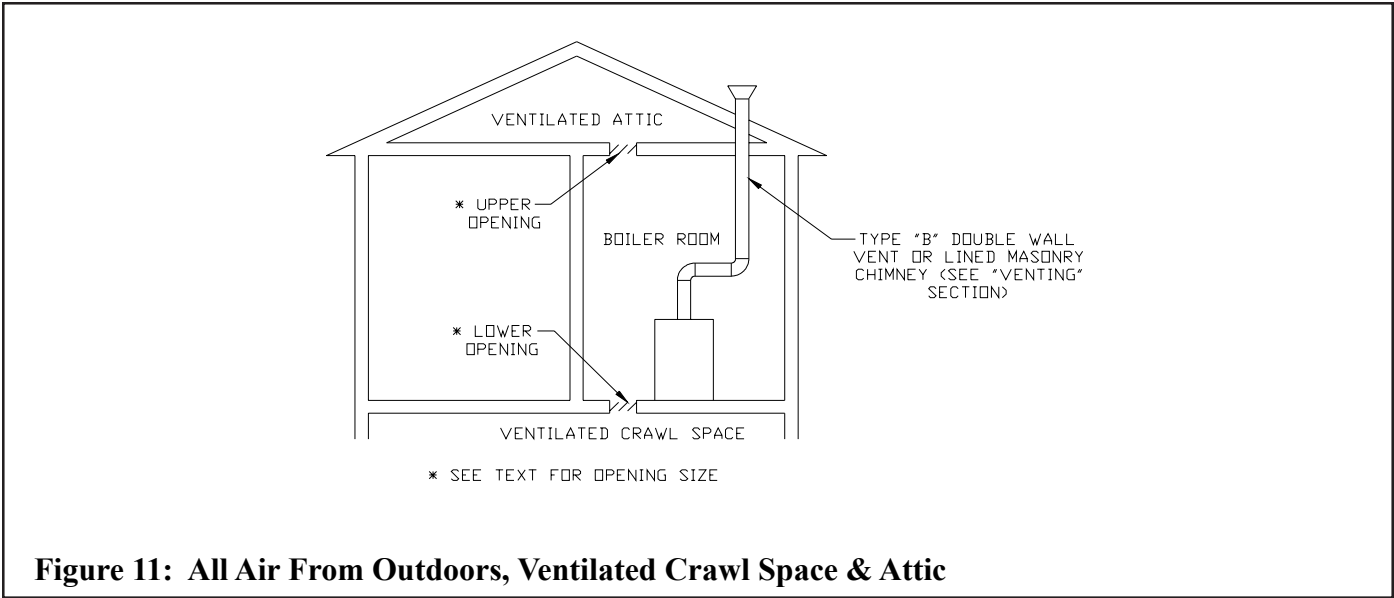
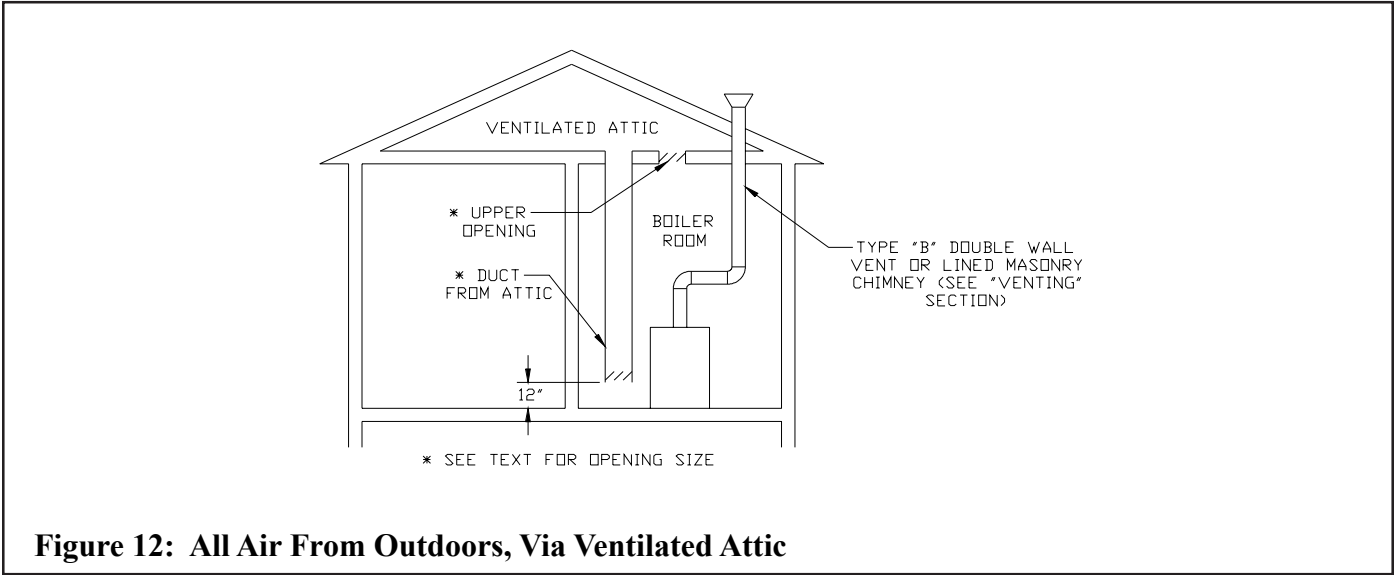

Figure 11: All Air From Outdoors, Ventiladed Crawl Space & Attic
Figure 12: All Air From Outdoors, Via Ventiladed Attic
- b. **Vertical ducts or Openings** (Figure 11 and Figure 12) require a minimum free area of 1 square inch per 4,000 Btu per hour input of all fuel burning appliances in the boiler room space but not less than 100 square inches. The cross-sectional area of the duct shall be the same as the required free area opening. The minimum opening size is 3 inches.